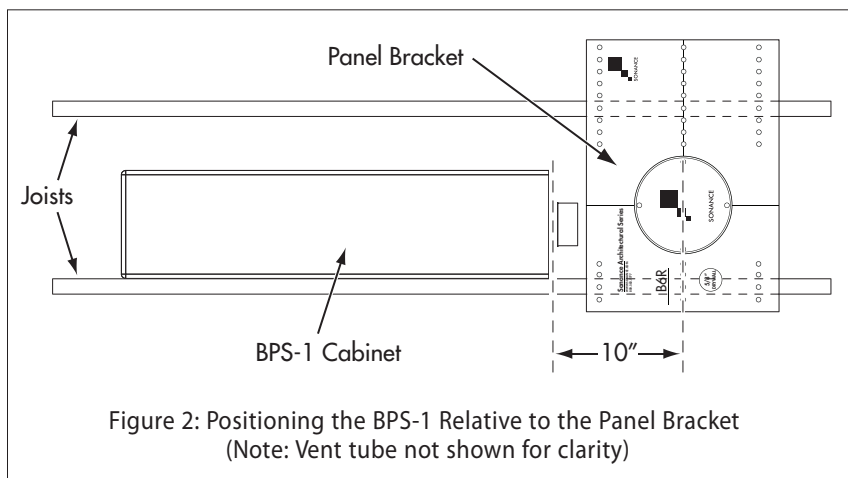

Figure 2: Positioning the BPS-1 Relative to the Panel Bracket
**IMPORTANT: THE CENTER OF PANEL BRACKET'S SPEAKER OPENING SHOULD BE APPROXIMATELY 10" FROM VENT TUBE END OF THE BPS-1 CABINET (SEE FIGURE 2). MAINTAINING THE VENT TUBE'S PROPER LENGTH IS INTEGRAL TO THE BPS-1'S ACOUSTIC PERFORMANCE. LENGTHENING OR SHORTENING THE VENT TUBE TO FIT A DIFFERENT DISTANCE WILL ADVERSELY AFFECT THE BPS-1'S PERFORMANCE.**
- Determine the location for the Architectural Series Panel Bracket and install it first (its location may be influenced by the locations of other AS speakers in the room). Then establish the location for the BPS-1 cabinet relative to the Panel Bracket. The vent end of the BPS-1 cabinet should be located 12" from the center of the Panel Bracket's speaker opening (see *Figure 2*, on page 2).